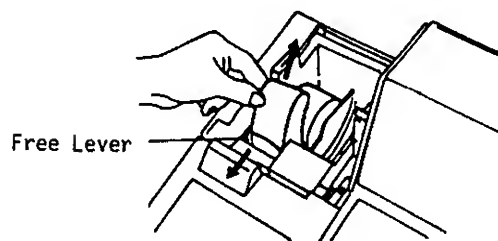

Fig. 6
2. Pull the Free Lever frontward while pulling the old paper core upward to remove the remaining paper tail (Fig. 6).